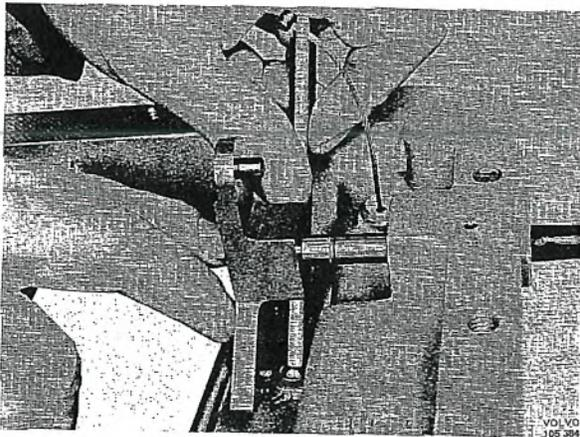
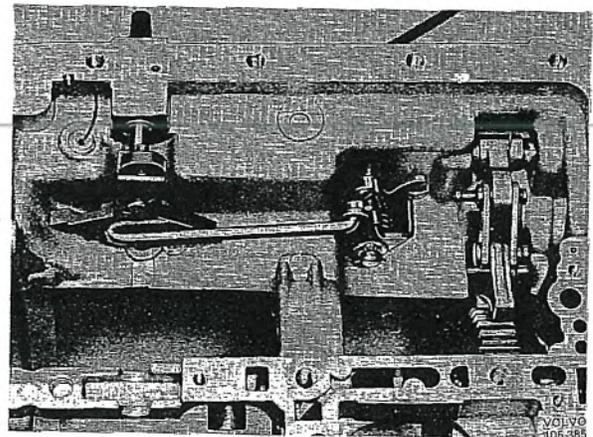

Fig. 4-87. Locating manual valve lever on detent ball spring
Fig. 4-88. Parking pawl and linkage installed
2. Assemble the shaft, parking pawl and levers in the reverse order to dismantling. Make sure that the springs for the levers are correctly fitted, see Fig. 4-88. Fitting the detent ball is facilitated by pressing down the ball using a short length of tubing as shown in Fig. 4-87.